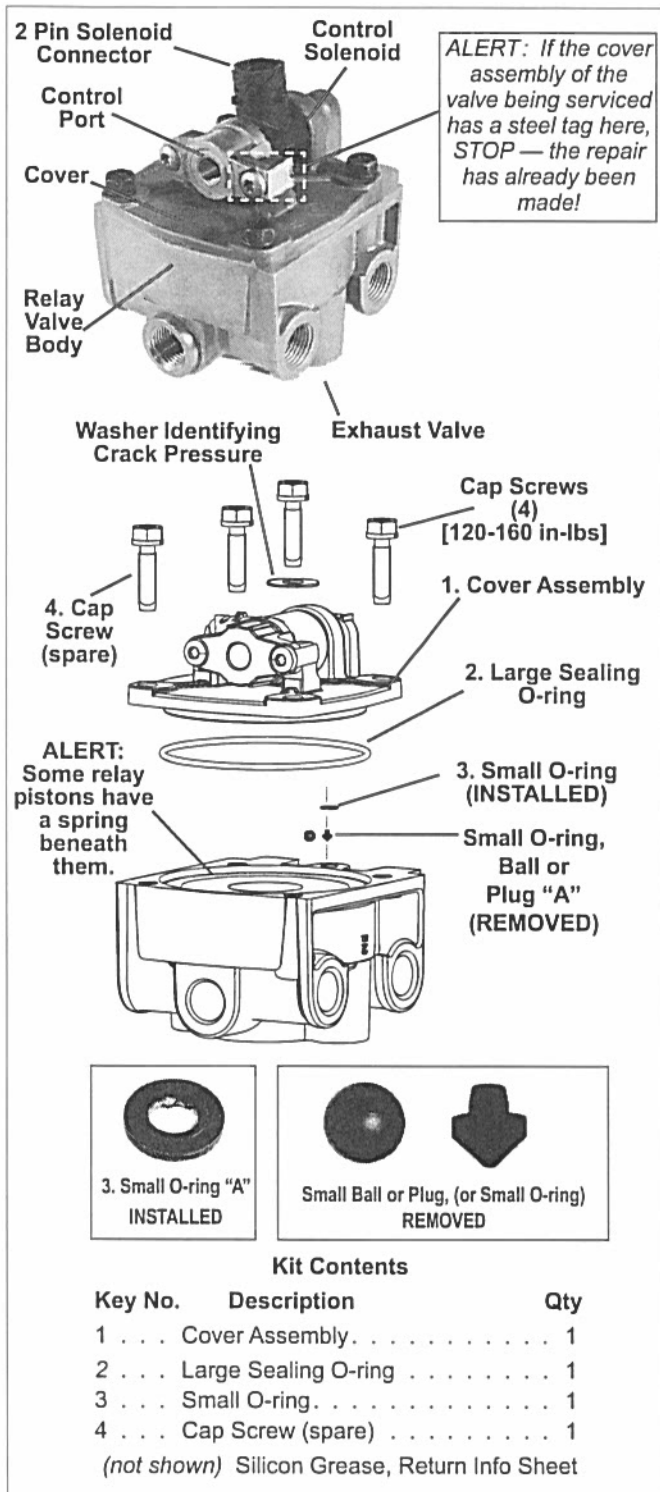

FIGURE 1 - BENDIX® ATR-6™ TRACTION RELAY VALVE
1. Verify that the Bendix® ATR-6™ valve does not have the steel tag (See Figure 1) that indicates it has already been serviced.
6. • **Remove and discard the ball or plug (“A” in Figure 1) from between the cover and the valve, OR,**
8. Grease and install the new large sealing O-ring (2) and the small O-ring (3) supplied, into the NEW valve cover.